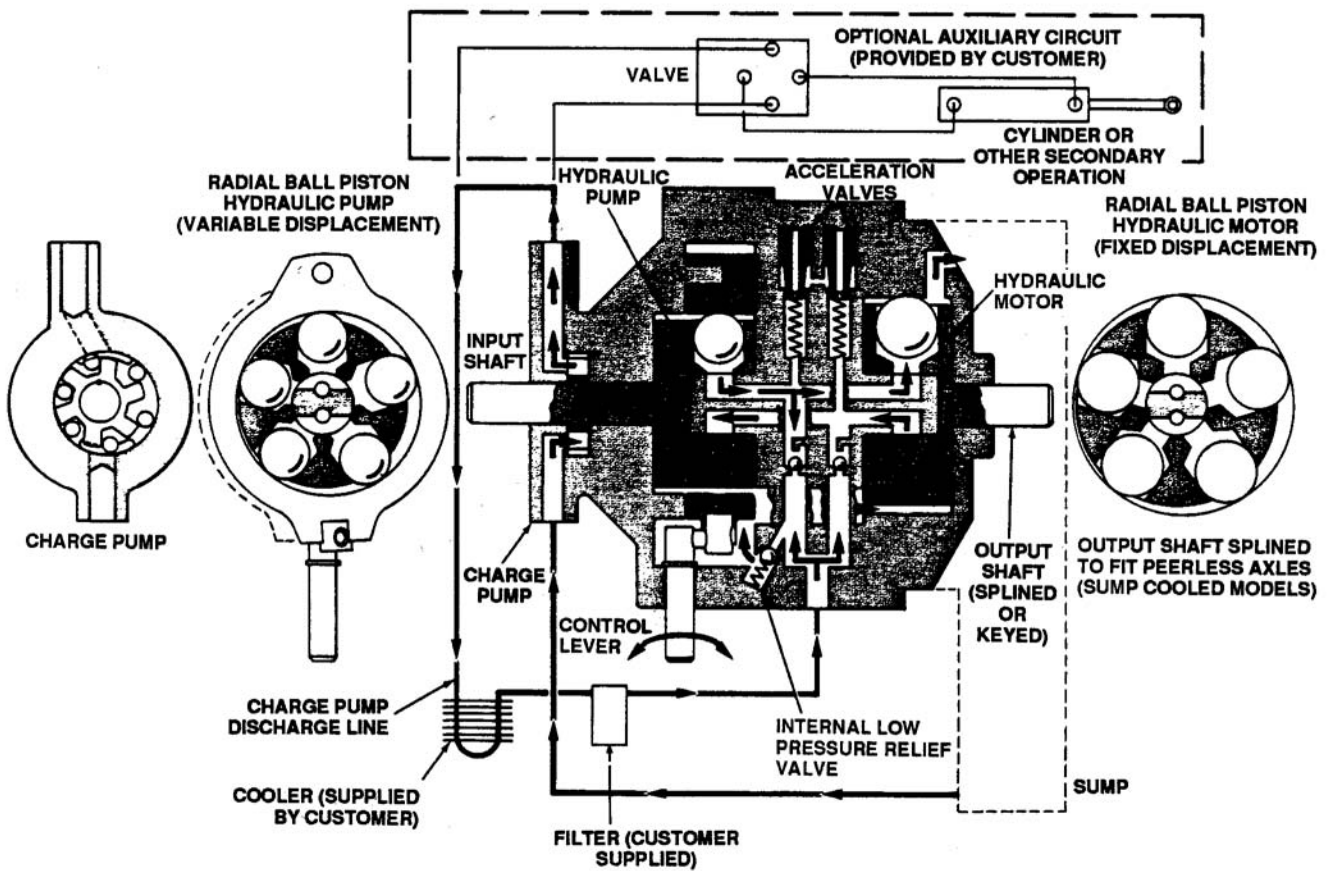

Figure 6-79. Fluid Flow Diagram
1. The motor is driven by fluid directed through a closed loop system by the hydraulic pump. Speed control is achieved by changing the amount of oil delivered by the variable displacement pump to the fixed displacement motor by rotating the control shaft. Because of leakage, the amount of fluid driven back by the motor is slightly less than that required by the pump. Check valves on the inlet side of the pump are open to charge pump flow, enabling the pump to receive fluid as needed to make up for leakage. See Figure 6-79.